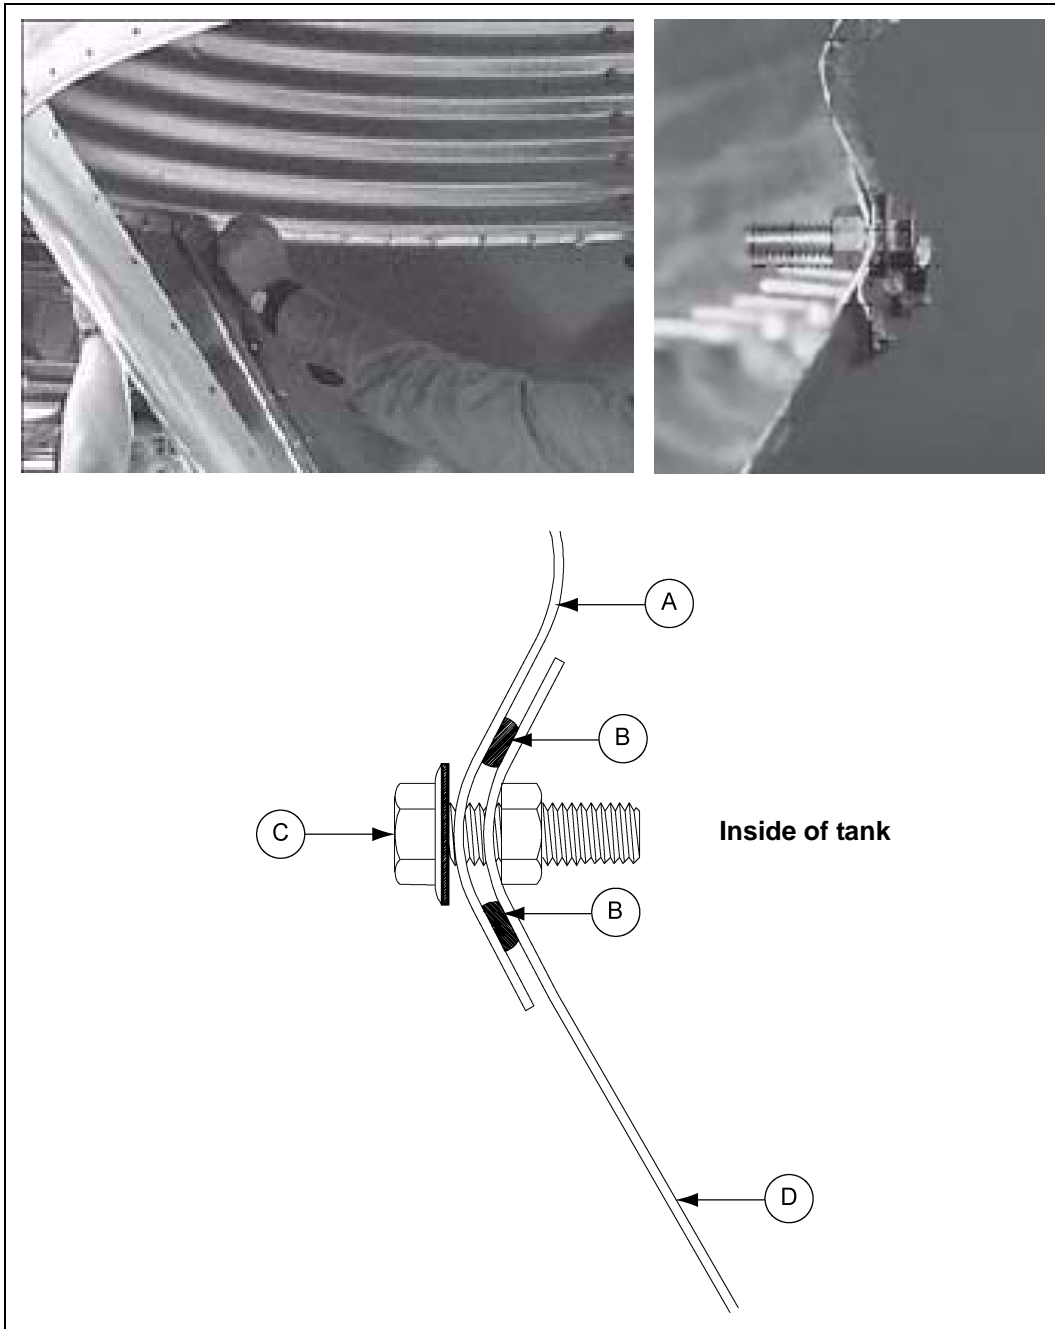

Figure 12B Hopper Sheet to Sidewall Sheet
When starting to attach hopper sheets to sidewall it is recommend that the first hopper sheet seam be positioned halfway between leg positions. Lap the hopper sheets as shown in Figure 12B on Page 67. Apply two (2) strips of caulking on all seams at sidewall to hopper and hopper sheet to hopper sheet. Be sure to place the head of the truss bolt on the **inside** of hopper. Leave one hopper sheet out to allow room to install hopper collar. Be sure to use two (2) strips of caulking between hopper collar and hopper sheets, then put last hopper sheet in place.